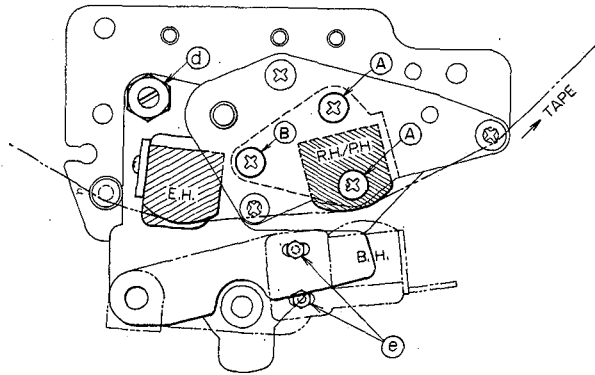

Fig. 2
- a) Azimuth alignment of the Recording/Playback Head (See Fig. 2)
- b) Recording/Playback Head Height Alignment (See Fig. 2 and 3)
- c) Angle of Bias Head (See Fig. 2 and 4)